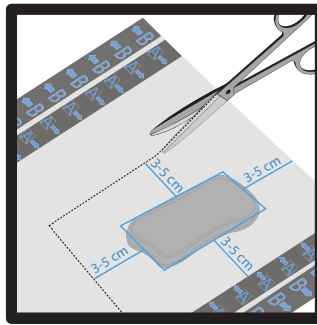

Figure 4
9. Remove the drape from the Dressing Kit. Size and trim the drape to cover the wound plus a 3-5cm border of intact skin (extra pieces of drape can be used to seal dressing leaks if needed). Always keep one side of the drape intact for ease of dressing application. (**Figure 4**).